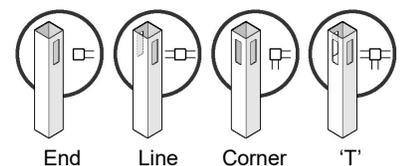

Figure 1c - Post Styles
- Make sure you have the correct type and quantity of posts before proceeding (**Fig. 1c**).